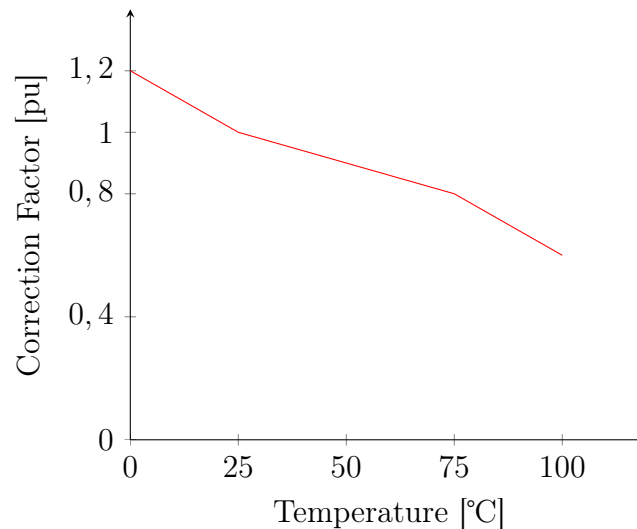

Figure 2: Correction factor vs Temperature
- *P-TCurve*: Correction factor curve of the PV array per unit of *Pmpp* as a function of the PV array temperature. As can be seen in Figure 2, the correction factor should be 1.0 for the temperature at which *Pmpp* is defined, in this case 25 °C. The PV array generates its rated maximum power, *Pmpp*, when operating at that temperature, 25 °C, and with  $1 \text{ kW/m}^2$  irradiance. To define this curve in OpenDSS, the user must use the XYCurve object, as shown below.